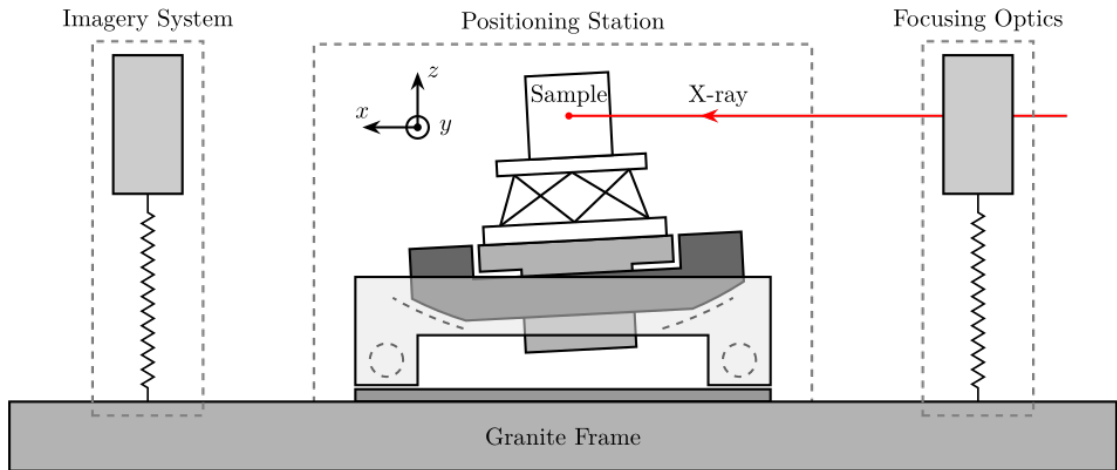

Figure 1.3.: ID31 Beamline Schematic. With light source, nano-focusing optics, sample stage and detector.
- X-ray beam + detectors + sample stage (Figure 1.3)